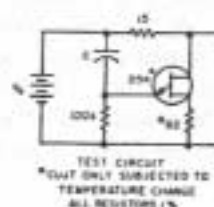

FIGURE 1
Relaxation Oscillator Frequency Shift from 25°C Value (See Figure 1)
- The Base-One Peak Pulse Voltage is measured in the circuit shown in Figure 1. This specification is used to insure a minimum pulse amplitude for applications in SCR firing circuits and other types of firing circuits.